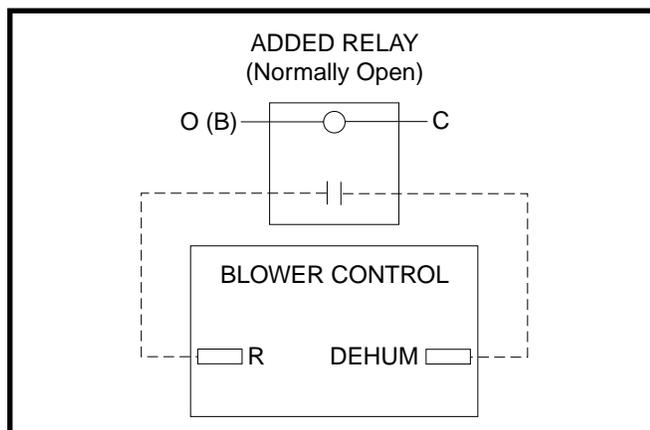

Figure 19. DHUM Wiring Configuration
- If a humidistat is not available, it is an acceptable option to connect the **R & DEHUM** via a field supplied normally open relay. See Figure 19 (page 22). The **R & DEHUM** terminals should be connected across the normally open relay terminals. The O (B) & C terminals should then be connected across the relay coil. This option causes the blower to run at a reduced CFM for 10 minutes after a call for cooling.